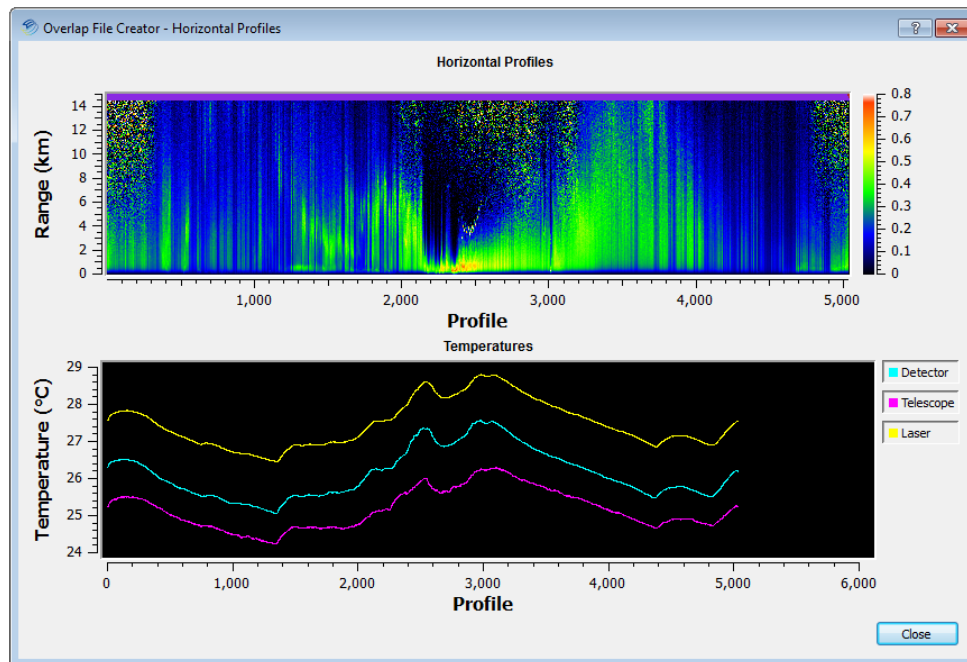

Figure 23: Horizontal Profile Selector Window for Overlap File Creator
- Abnormal profiles caused by fluctuating temperatures can skew the averaged signal. Select **Profile Display** to observe individual profiles and temperatures (Figure 23). Profiles can be added and removed from the averaged signal by clicking on the purple triangles in the *Horizontal Profiles* section. The range-corrected and overlap signals update after every change. This graph can be zoomed in the same way as the range-corrected signal graph.